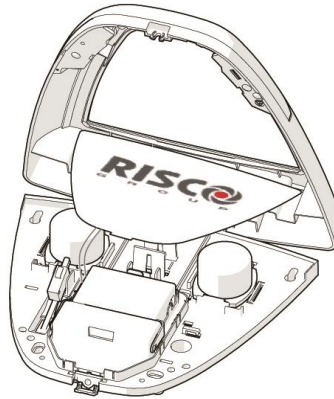

Figure 4
4. Insert the branded logo and then close the internal cover (see Figures 4 and 5).